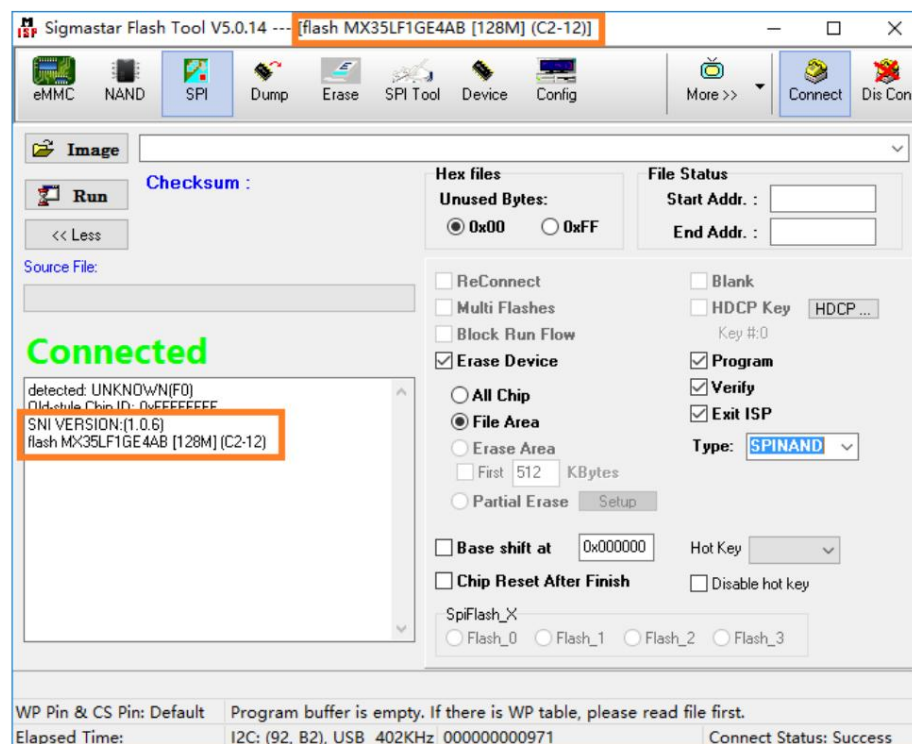

Figure 16
Step 5: When the connection is successful, the interface as shown in Figure 16 will appear, and the corresponding Flash model will be displayed, indicating that the connection is successful.